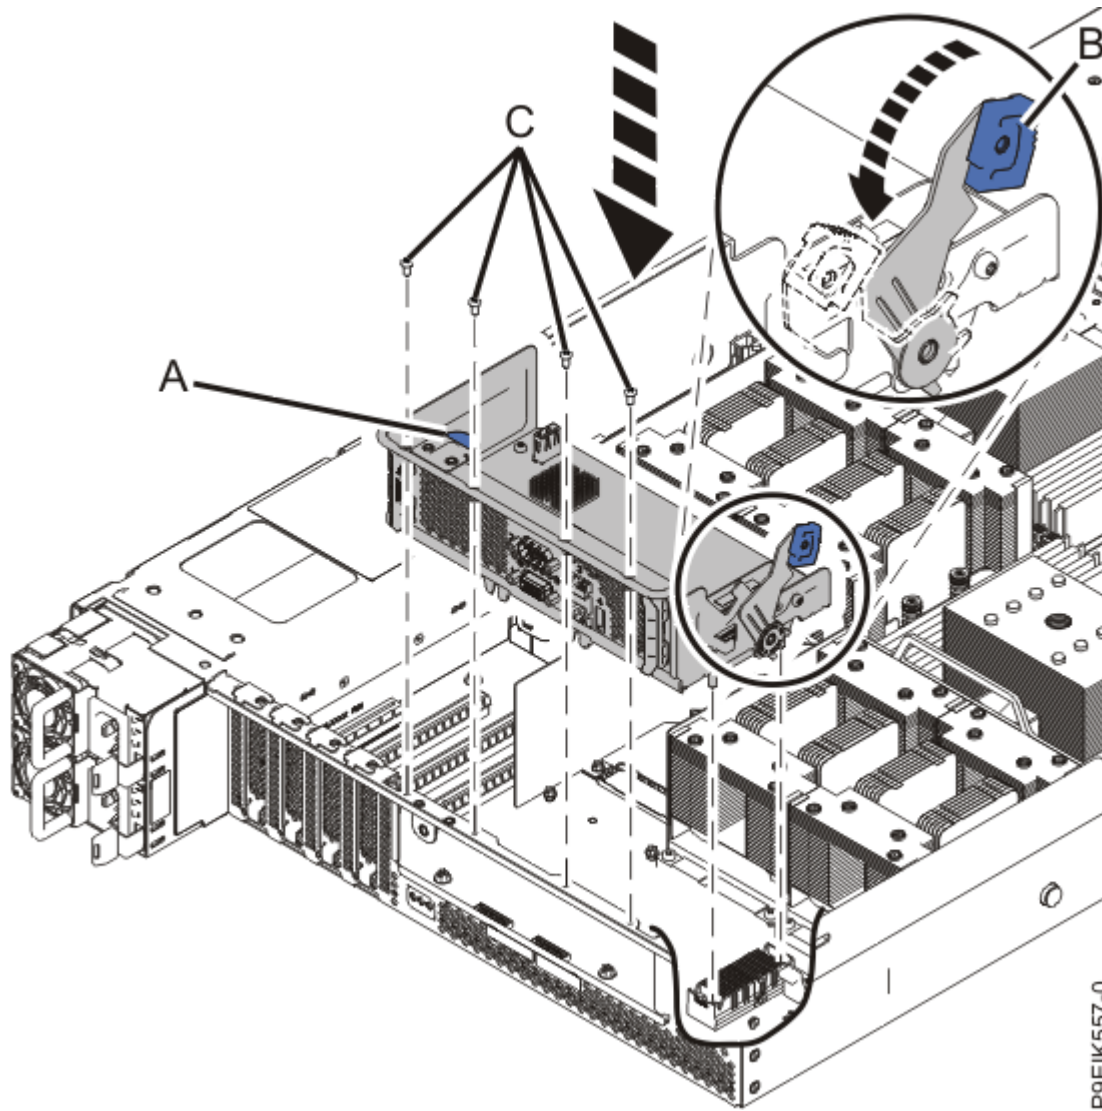

Figure 3. Replacing the BMC card
4. Using the blue tab at **(A)** and the handle **(B)** as shown in Figure 3 on page 5, press the BMC card into the connector on the system backplane.